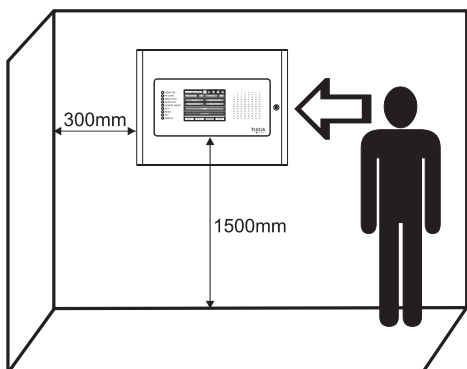

Figure 7A
- The panel must be installed in a clean dry place and must not be subjected to impacts or vibrations (Figure 7A). It must be situated far from heating appliances. The temperature must be within -5°C and + 40°C. The fire panel is not water-proof!